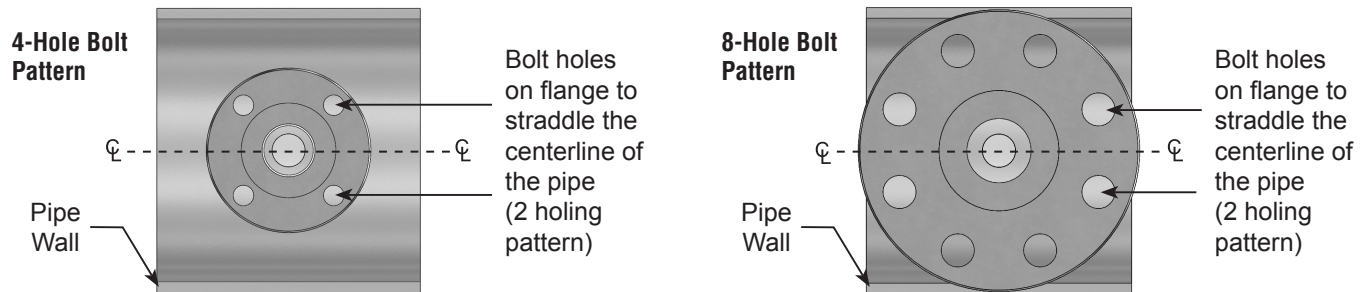

Figure 4. Flange Orientation
- Mark the location where the Verabar® is to be mounted. Position the mounting flange over the center of the mark. Using the appropriate weld gap (1/16" [1.5mm] typical), tack weld the mounting flange into position. Note the flange orientation per Figure 4. The bolt holes on the flange should straddle the centerline of the pipe (2-holing pattern). Finish welding the mounting flange to the pipe per applicable codes.